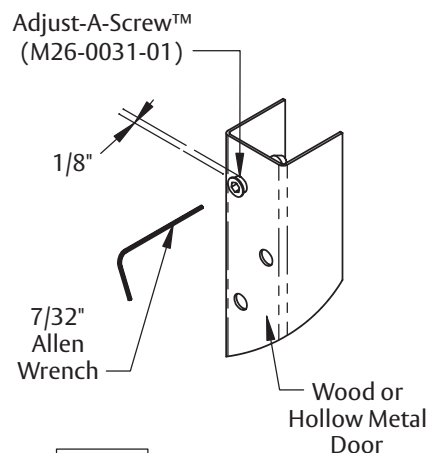

Fig. 4
3. Place a $\frac{7}{32}$ " Allen wrench in opening of Adjust-A-Screw and turn Adjust-A-Screw into hole while keeping screw properly aligned (Fig 4).
4. Place a $\frac{7}{32}$ " Allen wrench in opening of Adjust-A-Screw and turn Adjust-A-Screw into hole while keeping screw properly aligned (Fig 4).